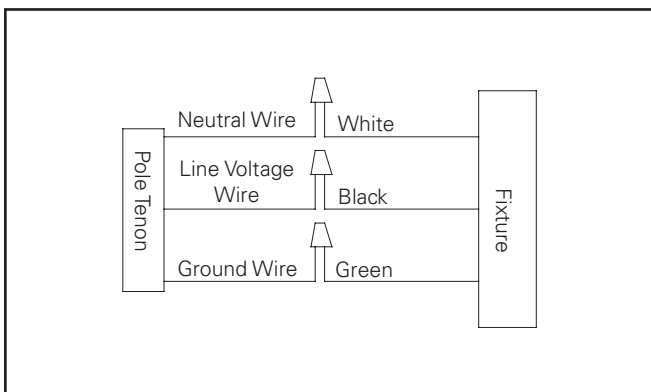

Figure 9.
12. Connect supply wires to appropriate luminaire leads (Figure 9.)